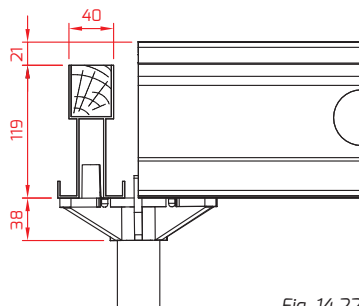

Fig. 14.22
7. The expandable shuttering board may be replaced with the other board (larger than the width of the space which is not filled) and the compensating girders (A0080...) 180 or 90 cm long. Plywood 21 mm thick should be installed on the girders (fig. 14.22 and 14.23). You should then complete the additional construction props.